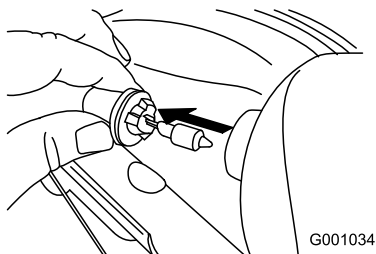

Figure 65
3. Remove the bulb straight out from the back of the headlight (Figure 65).